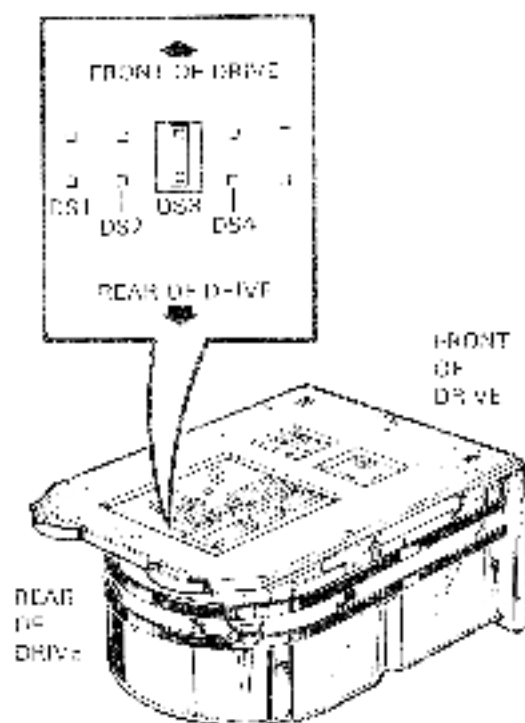

Figure 5-4 RD52 Disk Drive and Jumpers
5.3.1.2 RD52 – The RD52 read/write printed circuit board has five pairs of pins (Figure 5-4). To configure an RD52 drive in a BA23-A enclosure as D00 (installed in port 0), place the jumper clip on D03. To configure an RD52 drive in a BA23-A enclosure as D01 (installed in port 1), place the jumper clip on D04.